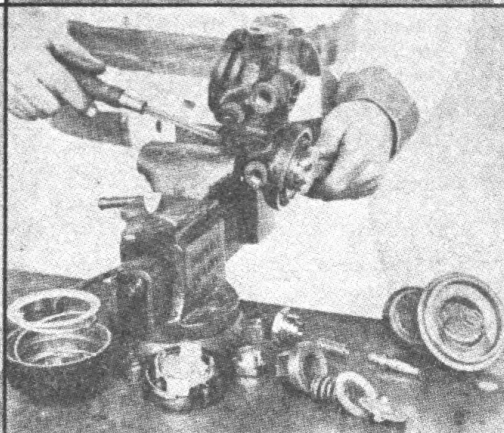

**FIGURE 42. LIFTING OUT
2. **Lift out spring and strainer (Figure 42).**